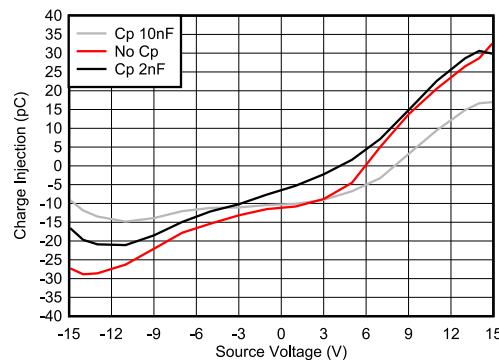

Figure 8-2. Charge Injection Compensation
The TMUX7208M contains specialized architecture to reduce charge injection on the Drain (D). To further reduce charge injection in a sensitive application, a compensation capacitor (C_p) can be added on the Source (S_x). This will ensure that excess charge from the switch transition will be pushed into the compensation capacitor on the Source (S_x) instead of the Drain (D). As a general rule of thumb, C_p should be 20x larger than the equivalent load capacitance on the Drain (D). Figure 8-2 shows charge injection variation with different compensation capacitors on the Source side. This plot was captured on the TMUX7219M as part of the TMUX72xx family with a 100pF load capacitance.